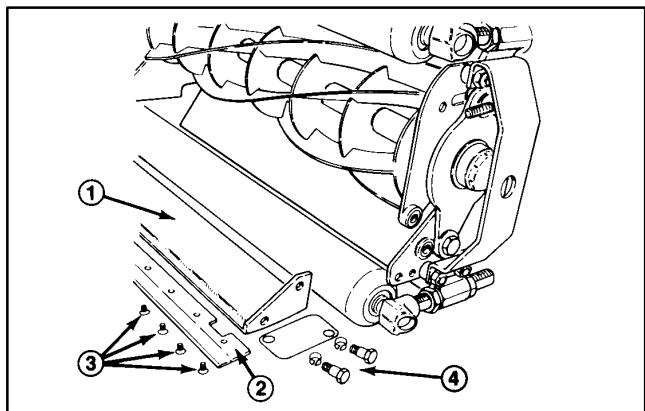

Figure 17
2. Remove the mounting screws for the bedknife and separate the bedknife from the bar (Fig. 17). Discard the screws.